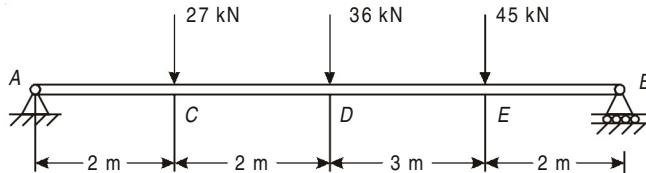

Fig. 4.35
- 4.9.** In Fig. 4.35, simply supported beam AB of 9 m span is loaded as shown in Fig. 4.35. Calculate slope at C and deflection at D in terms of EI .